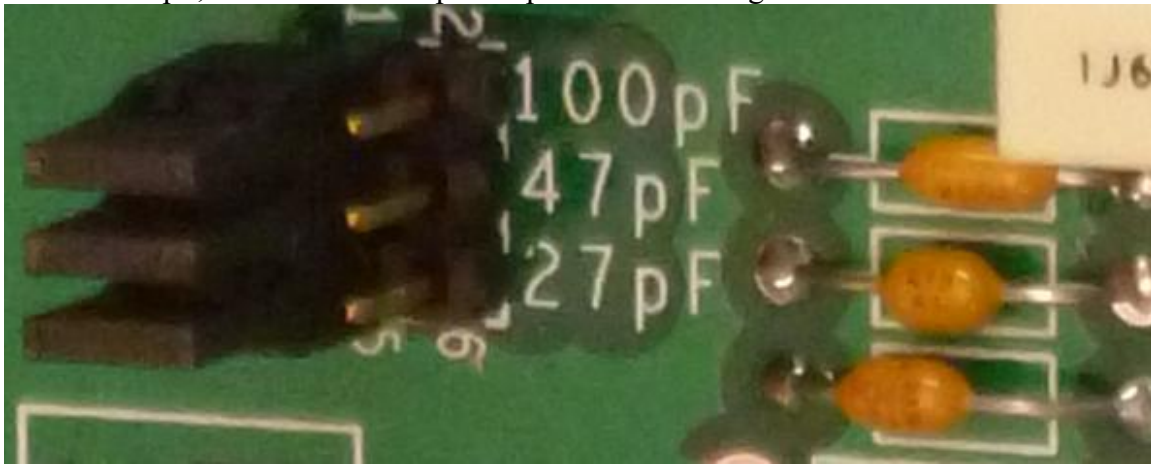

Figure 9-No additional capacitive loading is selected with the short plugs as shown here
3. To *not* select a capacitor, install the shunting plug to only contact one terminal on a line with the capacitance designation, that terminal being the one farthest from the capacitance designation. See Figure 9.